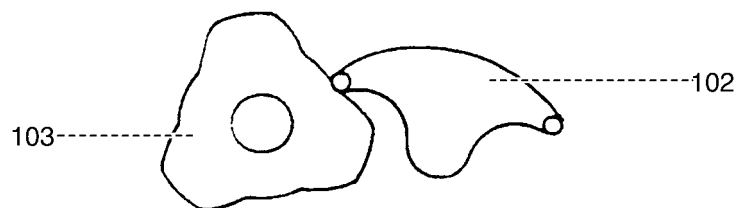

Fig. 53
- Rotate the large gear 98 in the direction of the arrow until feeler finger 102 (fig. 53) is exactly at the starting point of rising cam 103.